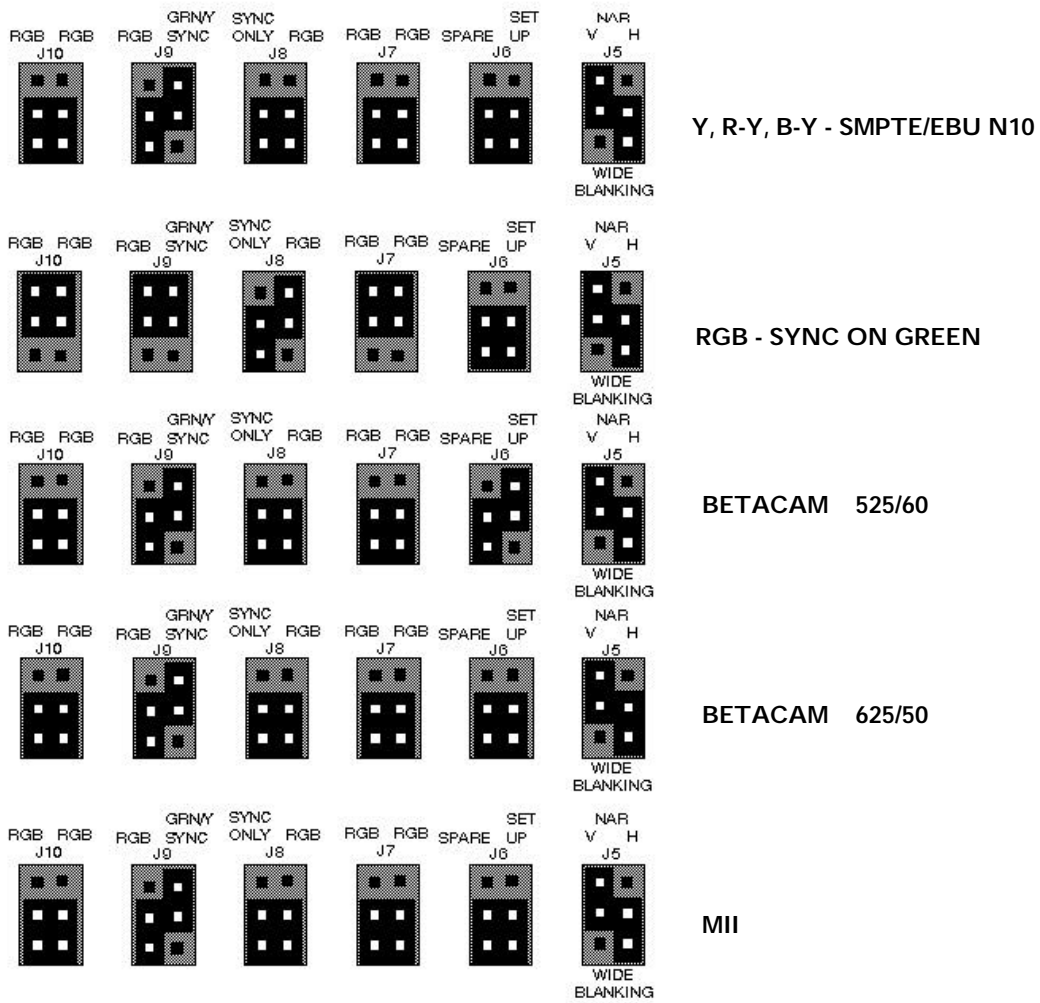

FIGURE 2 JUMPER CONFIGURATIONS
Internal format selection and adjustments are accessed by removing the top and bottom covers of the D10C. The D10C should then be oriented such that the component legends are as shown in Fig. 2. The "push-on" jumpers should be removed/replaced by gripping the top "hat" of the jumper with small needle-nose pliers. The pots require a 3/32 inch (2.4 mm) non-metallic alignment screwdriver.
3. While power is off, set D10C jumpers **J5** through **J10** as shown in Fig. 2 for Y, R-Y, B-Y.
2. Set jumpers **J10a**, **J10b**, **J9a**, **J8b**, **J7a**, and **J7b** to the RGB position as shown in Fig. 2.
3. While power is off, set D10C jumpers **J5** through **J10** as shown in Fig. 2 for BETA 525/60.
3. While power is off, set D10C jumpers J5 through J10 as shown in Fig. 2 for BETA 625/50.
3. While power is off, set D10C jumpers **J5** through **J10** as shown in Fig. 2 for MII.